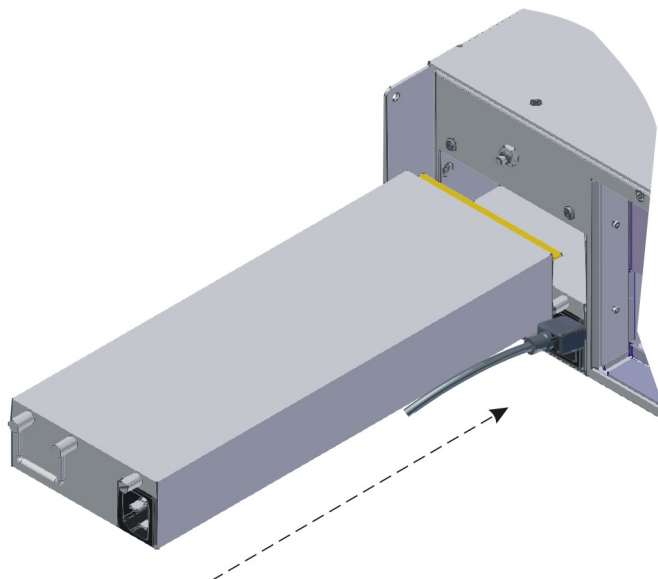

Figure 4-25 Install New DSL100 Power Supply
4. Position the replacement unit squarely within its slot and push it along the guiding surface until it snaps into place, as shown in Figure 4-25.